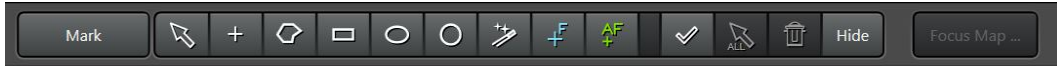

Figure 17: ROI & Focus Map tools located at the bottom-center of the screen
1. Select either the blue focus point or green auto-focus point from the options next to the ROI tools. See Figure 17.